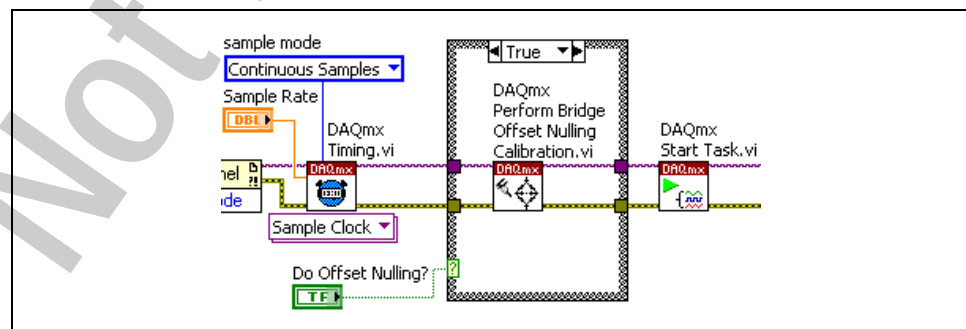

Figure 7-4. Offset Nulling Block Diagram Code
4. Add offset nulling to the application. You will add code similar to Figure 7-4.